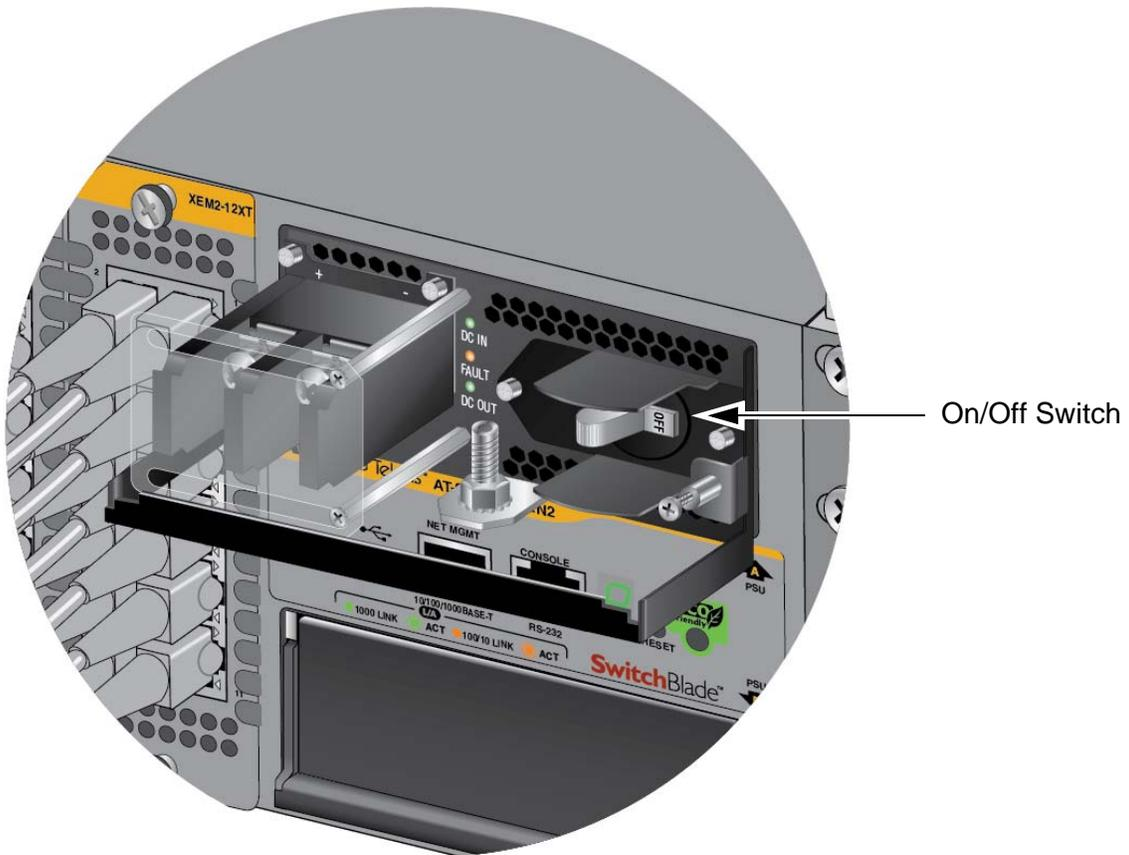

Figure 71. On/Off Switch on the SBxPWRSYS1-80 DC Power Supply
3. Verify that the On/Off switch on SBxPWRSYS1-80 DC Power Supply is in the Off position. Refer to Figure 71 on page 124.
2. Verify that the On/Off switch on SBxPWRSYS1-80 DC Power Supply is in the Off position. Refer to Figure 71 on page 124.
3. Verify that the On/Off switch on SBxPWRSYS1-80 Power Supply is in the Off position. Refer to Figure 71 on page 124.
14. Turn the On/Off switch(es) on the SBxPWRSYS1-80 DC Power Supply(ies) to the On position. See Figure 71 on page 124.